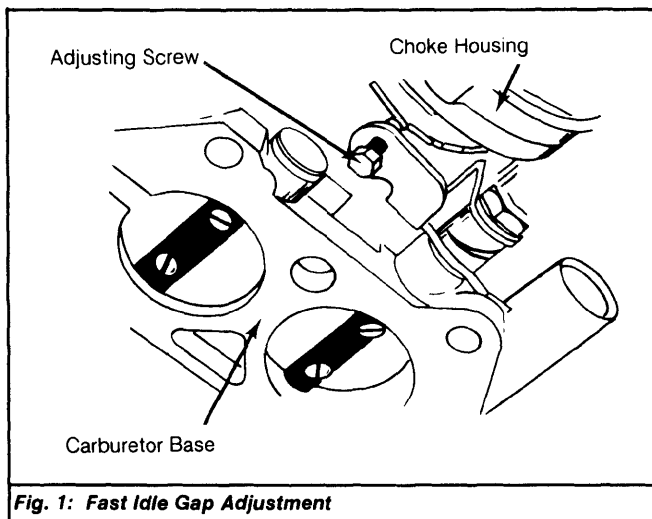

Fig. 1: Fast Idle Gap Adjustment
3) Start engine and check fast idle speed. Fast idle speed should be 3150-3250 RPM (3350-3450 RPM on automatic transmission equipped vehicles). If necessary, adjust screw located beneath automatic choke housing. See Fig. 1.